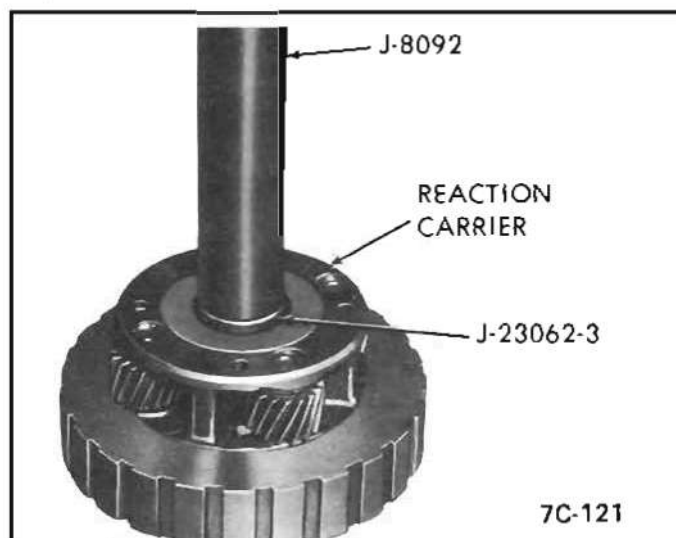

Figure 126 Reaction Carrier Bushing Installation
a. Thread Tool J-23062-3 on Drive Handle J-8092 and remove bushing. *See Figure 126.*
b. Using Tool J-23062-3, press in new bushing flush to .010" from inner surface of hub. *See Figure 126.*